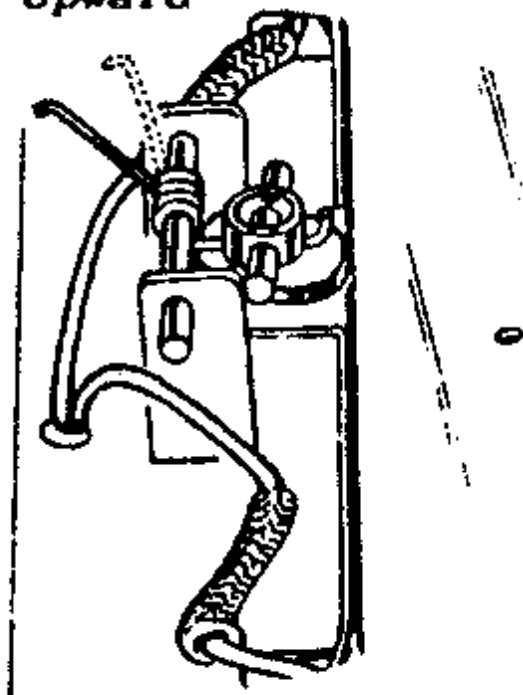

Figure 1 - Adjusting Lever Spring
1. *Sticking Overhead Doors.* Relieve friction along sides of door frames by scraping off excess paint, burrs, etc. Failure of overhead doors to operate properly may be caused by poor adjustment of the spring lever. Adjust as follows: Overbend spring lever upward as in Figure 1. Then, holding overhead doors closed, reach the plunger through the sliding door and push it down several times until doors rise enough to clear cattle and close completely. Readjustment of lever may be necessary when replacing or remounting the overhead doors or the cattle runway. To prevent interference with spring lever, anchor the coil lead to floor of car with a bit of scotch tape.